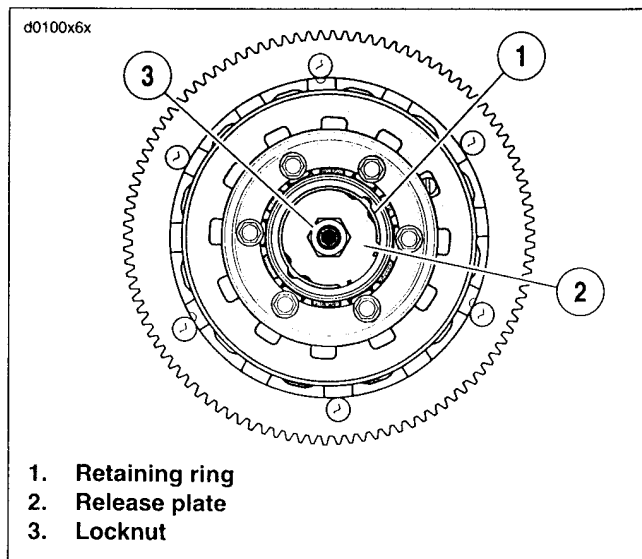

Figure 6-8. Clutch
4. See Figure 6-8. Loosen locknut (3).
5. Remove retaining ring (1) and release plate (2).